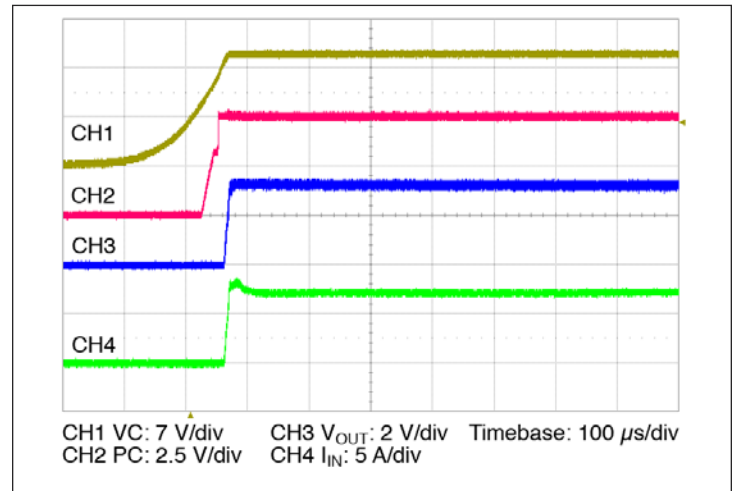

Figure 14 – Start up from application of VC;  $V_{IN}$  pre-applied  $C_{OUT} = 0 \mu$ F
- Stand Alone Operation (VC applied after VIN): In this case the VTM output will begin to rise upon the application of the VC voltage (See Figure 14). The Adaptive Soft Start circuit (See Section 10) may vary the output rate of rise in order to limit the inrush current to its maximum level. When starting into high capacitance, or a short, the output current will be limited for a maximum of 900  $\mu$ sec. After this period, the adaptive soft start circuit will time out and the VTM may shut down. No restart will be attempted until VC is re-applied, or PC is toggled. The maximum output capacitance is limited to 4000  $\mu$ F in this mode of operation to ensure a successful start.